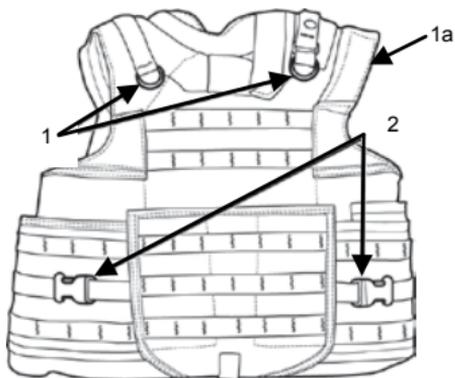

Figure 4. IOTV Attachment Points for TAP.
- Two D-rings (Figure 4, Item 1) located near the top of the front carrier.
- Two female quasm buckles (Figure 4, Item 2) on the side plate carriers.
1. Open the hook-and-pile flap (Figure 4, Item 1a) on the left shoulder (left side when worn) of the vest.
2. Secure the hook-and-pile D-ring adapter web (Figure 4, Item 1) so the D-ring is fully exposed from under the flap, when flap is closed.